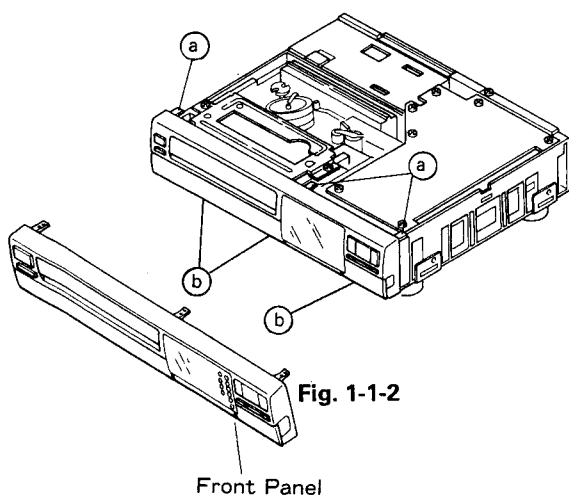

Fig. 1-1-2
3. Refer to Fig. 1-1-2 and pull the front panel assembly forward you to disengage three tabs (b) of the front panel assembly from the bottom side of the chassis, then remove the front panel assembly.